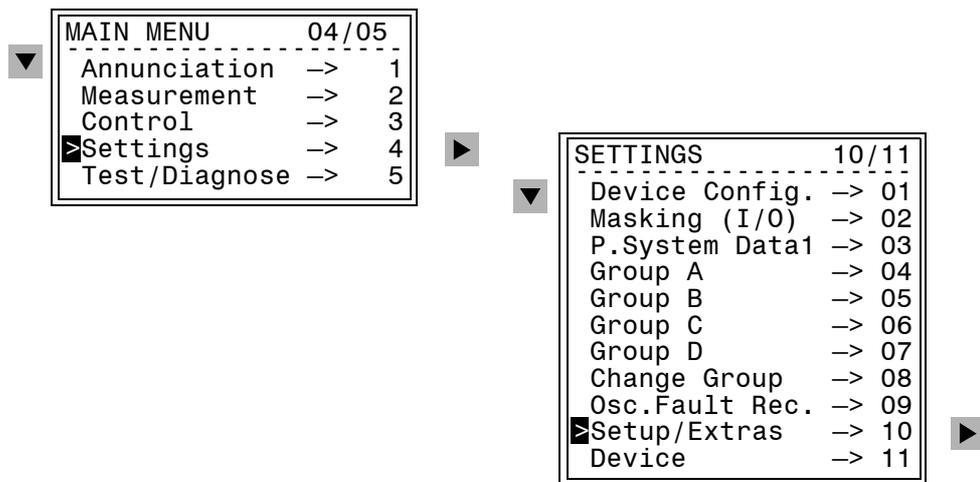

Figure 3-1 Main menu and sub-menu **SETTINGS** — example
- Using the ▼ key, select the menu item **Settings**, and move to the device settings using the ▶ key. The **SETTINGS** menu appears, as shown in Figure 3-1.